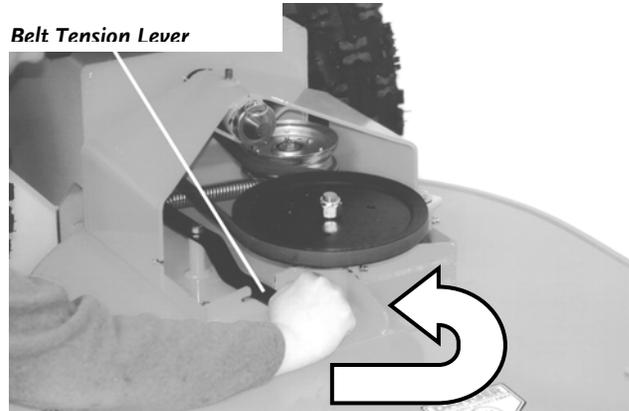

Figure 5
2. Release the Belt Tension Lever (*Figure 5*).